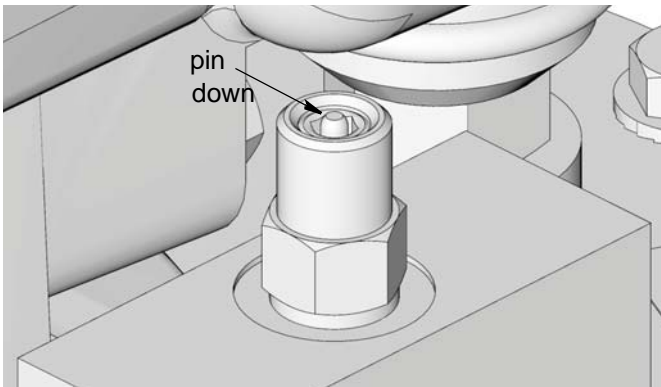

FIG. 2
1. Pull out and hold black Pressure Relief Knob (R) long enough to relieve line pressure between Fill Valve (A) and Auto-Fill Shut Off Valve (C).
2. Verify the Auto-Fill Shut Off pin is down, indicating it is reset (FIG. 2). See the Auto-Fill Shut Off instruction manual.
Make sure Auto-Fill Shut Off valve pin is down. See FIG. 2, page 5 and/or Auto-Fill Shut Off Valve manual.